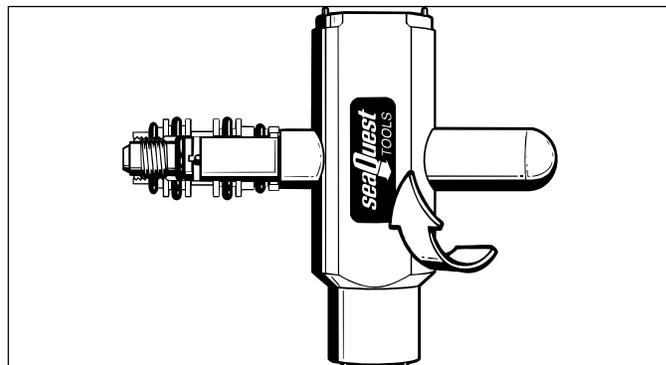

Figure 23
1.3.30 Apply the crown adjustment feature of the T-Tool to turn the crown in clockwise as far as the tool will allow, and then turn the crown back counter-clockwise exactly 1/2 turn to arrive at the correct preliminary setting (see Fig. 23).